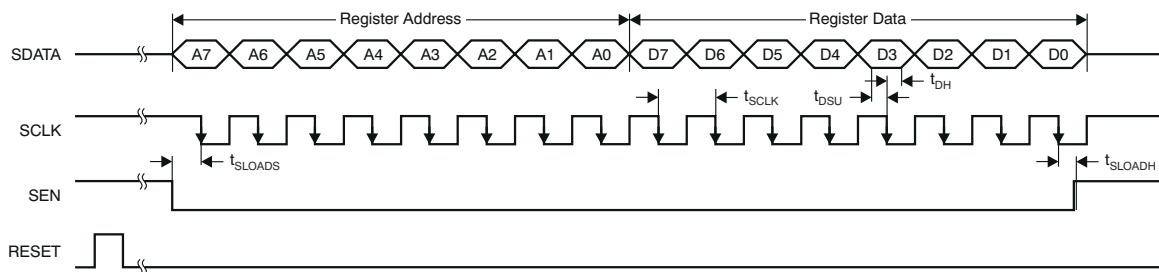

图 7-9. Serial Interface Timing
1. Either through hardware reset by applying a high pulse on the RESET terminal (of width greater than 10ns), as shown in 图 7-9; or